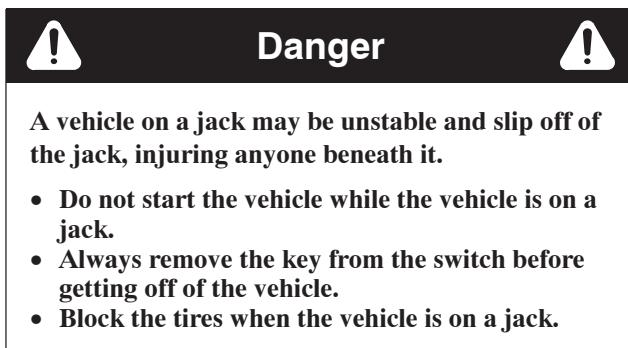

**Figure 36**
- Push bed support onto cylinder rod, making sure support end tabs rest on end of cylinder barrel and on cylinder rod end (Fig. 36).